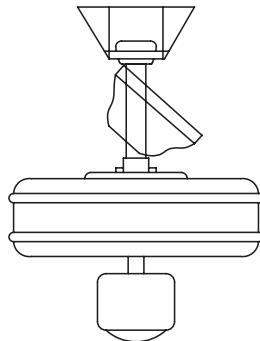

Figure 6
- Carefully lift the assembly up to the ceiling mounting plate. If using close-to-ceiling mounting, hang the fan on the hook provided by utilizing one of the holes at the outer rim of the ceiling canopy (Figure 6). Seat the hanger ball in the mounting plate socket. Make sure the tab on the mounting plate socket is properly seated in the groove in the hanger ball (Figure 6).
THE HOOK AS SHOWN IN FIGURE 6 IS ONLY TO BALANCE FAN WHILE ATTACHING WIRING. FAILURE TO HANG AS SHOWN IN FIGURE 6 MAY RESULT IN HOOK BREAKING CAUSING THE FAN TO FALL. HOOK MUST PASS MUST PASS FROM INSIDE TO OUTSIDE OF CANOPY.